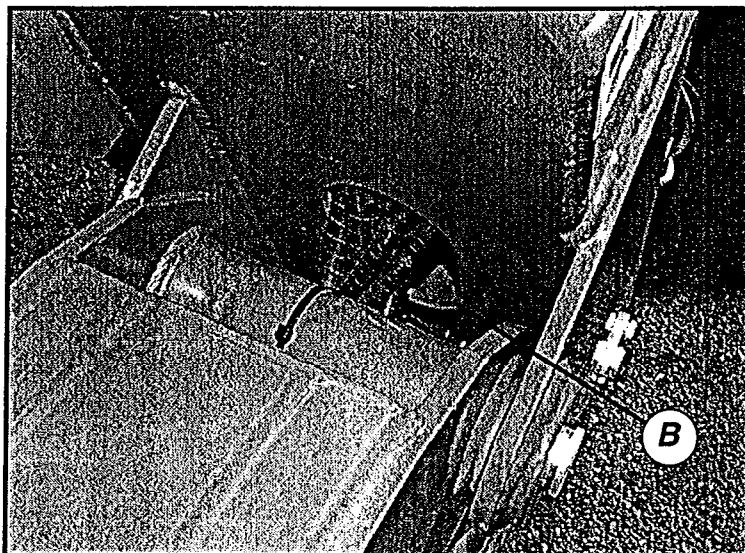

Figure 2
6. Slide the Harness Protection Coil down the Harness and thread it through the Second Post until it has come out of entry point **B**. See figure 2.